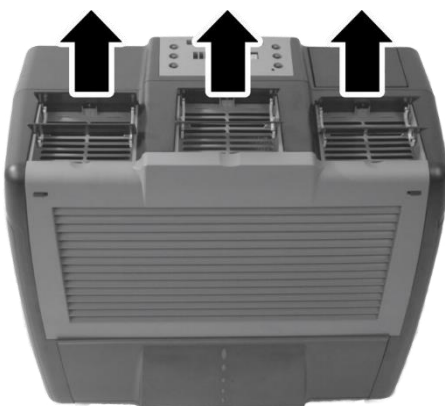

Fig. 6: Opening the ventilation flaps
- ➔ Open the ventilation flaps on the top of the appliance to allow better distribution of the humidified air in the room (Fig. 6).